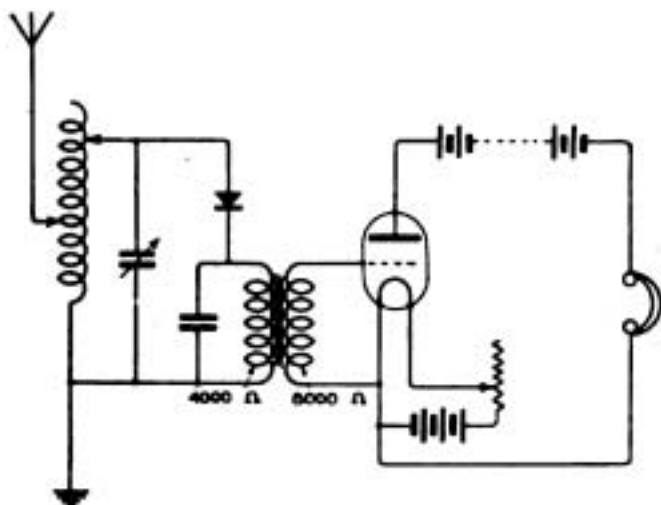

Fig. 6.
(2) Yes, and yes. The reaction coil need not be tuned.
(3) Circuit may be simplified, as suggested, without serious loss of efficiency.
G.T. (Dover)—(1) As requested, we give a diagram (Fig. 6) for adding a valve as a L.F. amplifier to a simple crystal set, but this is hardly an efficient way of using a valve.